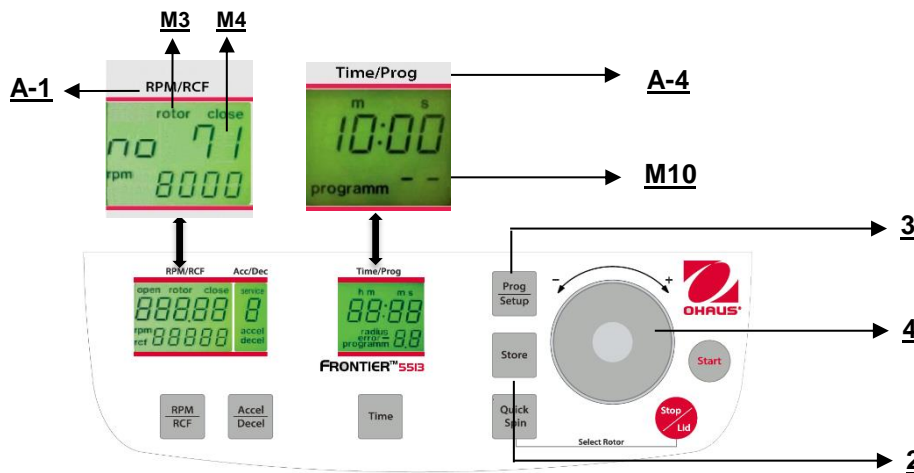

Figure. 23
To recall stored programs press the key **"Prog/Setup"** (3) (refer to figure 23) while the lid is already closed. Inside the display **"Time/Prog"** (A-4), **"programm -"**(M10) appears. The desired program number can be pre-selected with the adjusting dial (4).
To leave the program mode just press the key **"Prog/Setup"** (3) (refer to figure 23). Then inside the display **"Time/Prog"** (A-4) the word **"programm"**(M10) appears.